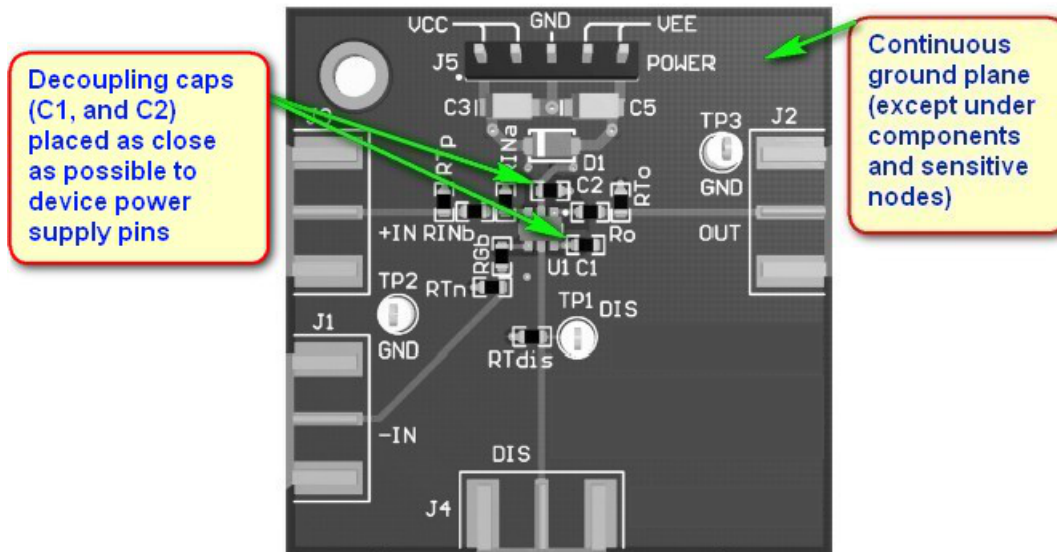

Figure 28. LMH6702 Evaluation Board Layer 1
- Continuous ground planes are preferred for signal routing with matched impedance traces for longer runs. However, open up both ground and power planes around the capacitive sensitive input and output device pins as shown in Figure 28. After the signal is sent into a resistor, parasitic capacitance becomes more of a bandlimiting issue and less of a stability issue.
- Use good, high-frequency decoupling capacitors (0.1  $\mu\text{F}$ ) on the ground plane at the device power pins as shown in Figure 28. Higher value capacitors (2.2  $\mu\text{F}$ ) are required, but may be placed further from the device power pins and shared among devices. For best high-frequency decoupling, consider X2Y supply-decoupling capacitors that offer a much higher self-resonance frequency over standard capacitors.